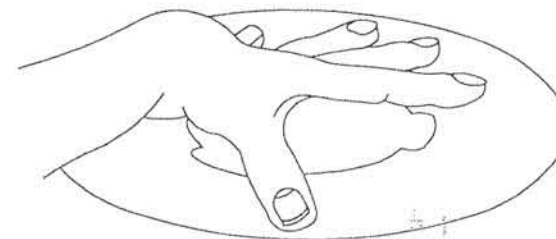

Fig.2
1. Seed discs must always be fitted concave towards the unit air gallery block even if they appear to function either way round. (Fig.2).